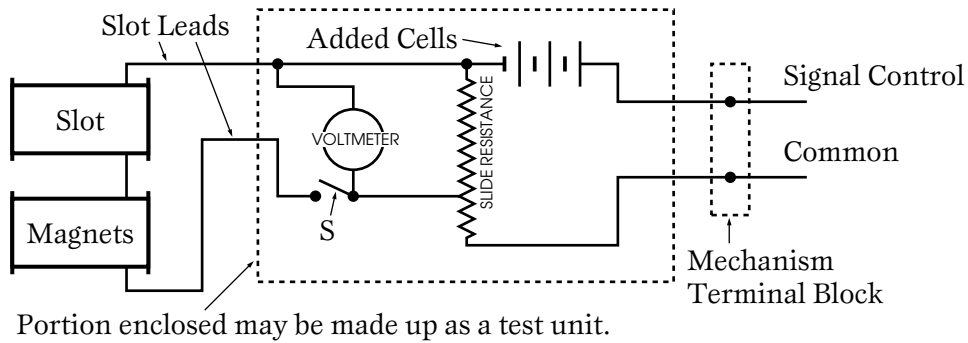

FIGURE 4
- (1) Comparative results can be obtained only by following exactly the same procedure in all tests.
- (2) Remove slot coils leads from terminals and connect to testing circuit per diagram. Figure 4.
- (3) First drive signal to the position at which release (shunt) is to be taken and then open circuit. This is to be done at least twice before taking readings so as to produce normal conditions.
- (4) Adjust to 12 volts with switch "S" open, then close switch, clear the signal and correct voltage adjustment if necessary. Do not exceed 12 volts